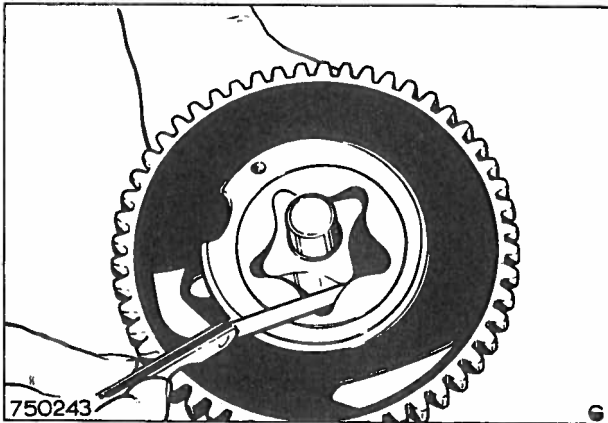

Fig. 5 Checking the clearance between the inner and outer rotors
2. Check the clearance between the lobes of the outer and inner rotor, Fig. 5. If the clearance is excessive (see Specifications) a new rotor assembly must be fitted. Inner and outer rotors are services only as an assembly.